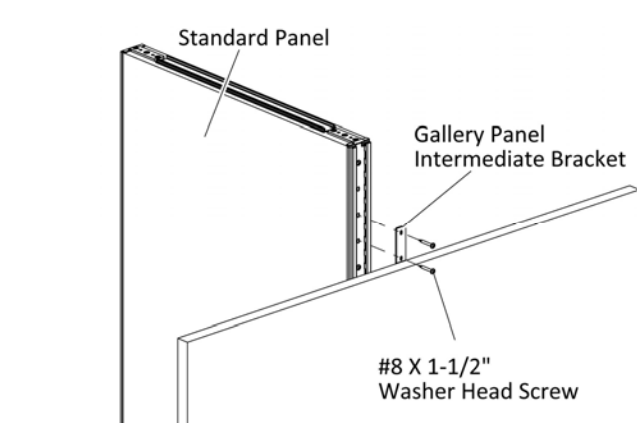

Figure 2
4. Drive two #8 x 1-1/2" Washer Head Screws through the holes in gallery panel intermediate bracket into the standard panel, (Figure 2).